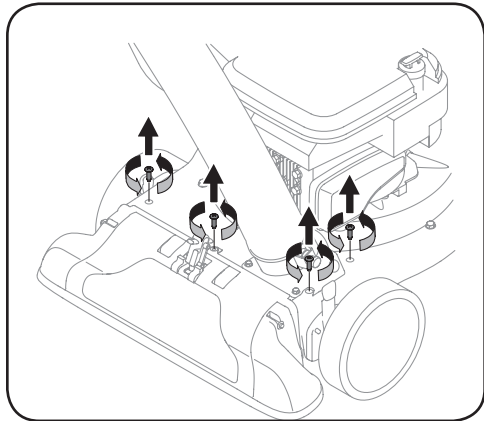

Figure 5-6
- Remove the four screws (a) on the upper housing that secure the nozzle cover. See Figure 5-6.